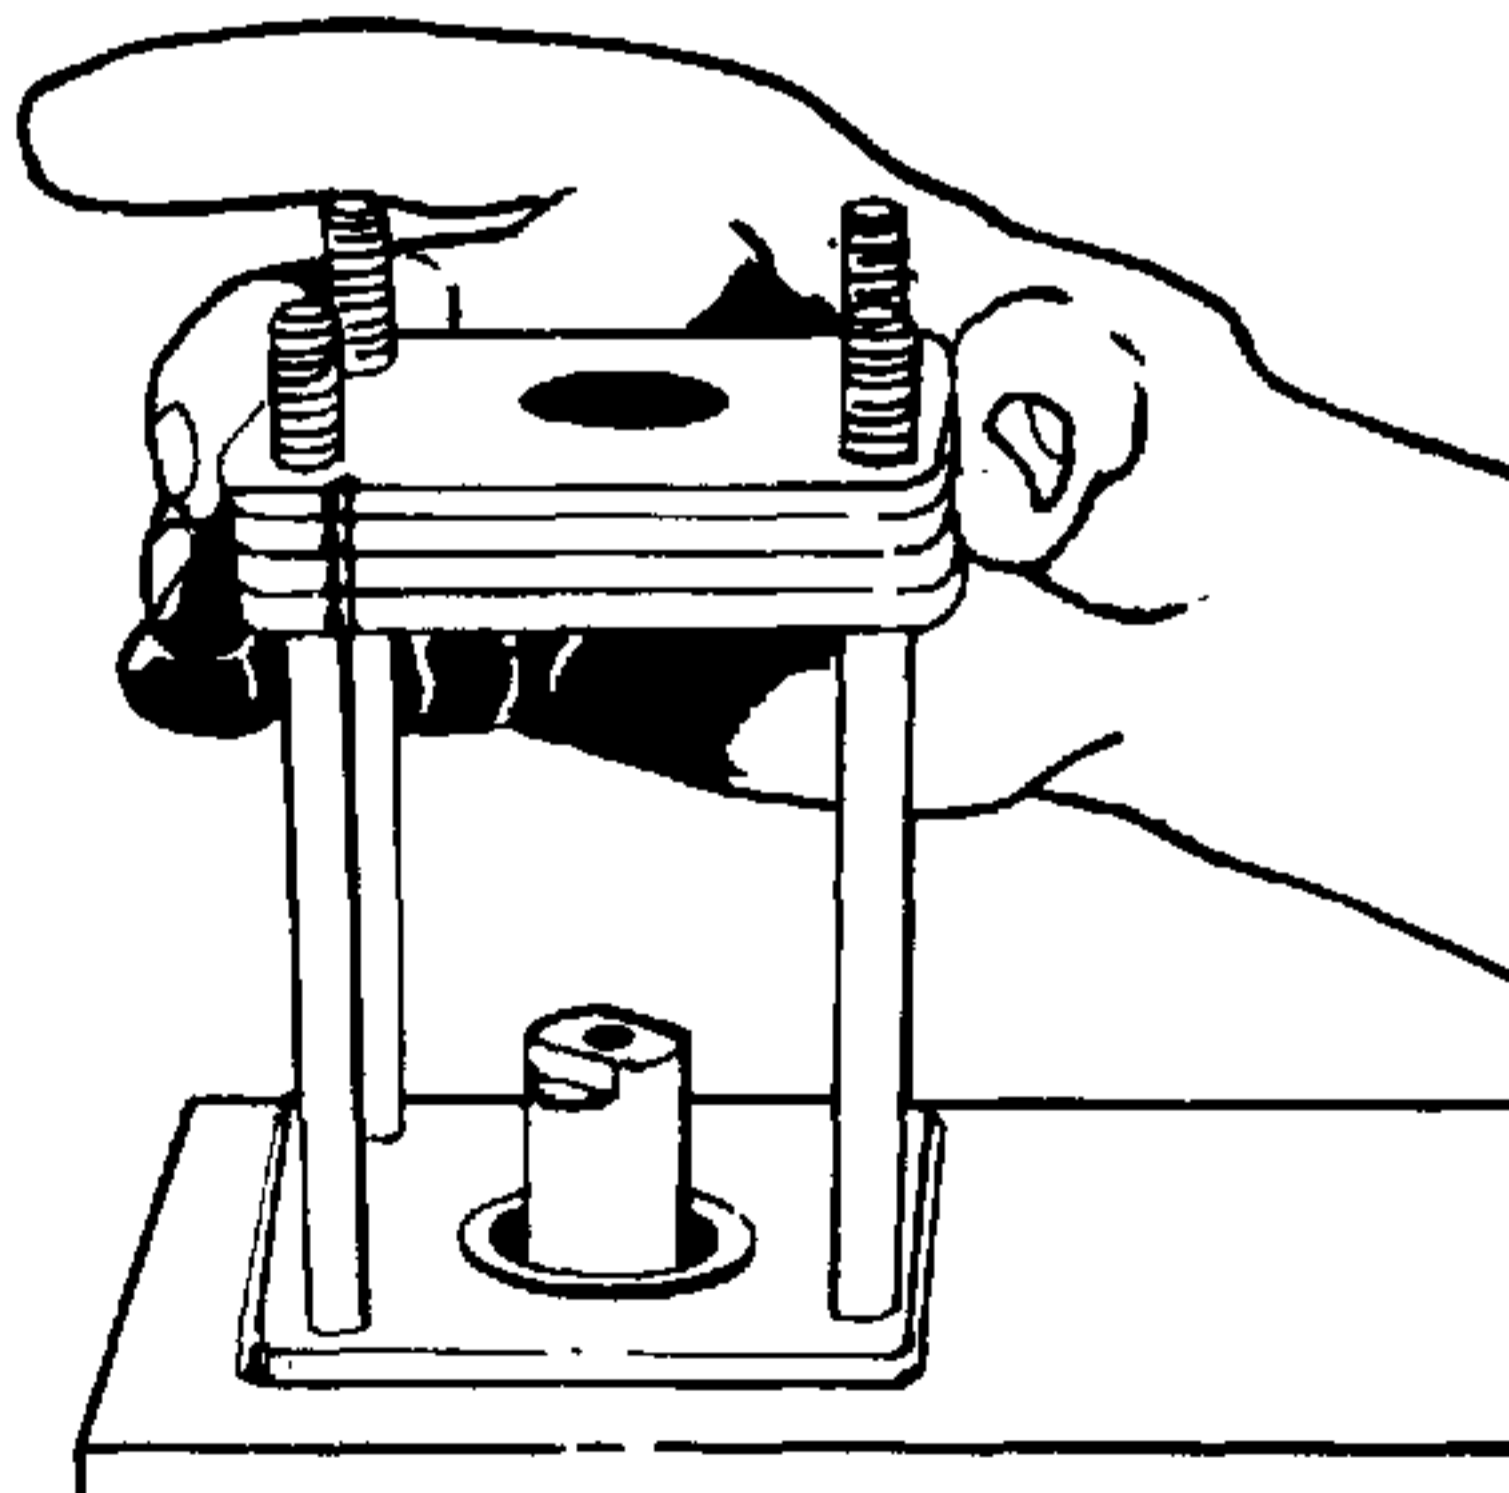

Figure 4-51. Installing Upper Cover Plate.
- Assemble the upper cover plate (30, Figure 4-1) over the four special bolts (38) and input shaft assembly (31) onto the upper cover and tube assembly (35) with the highly polished surface up and the edge with the alignment groove in the same position as noted before disassembly. See Figure 4-51. (Reference alignment groove graphic, Figure 4-93.)